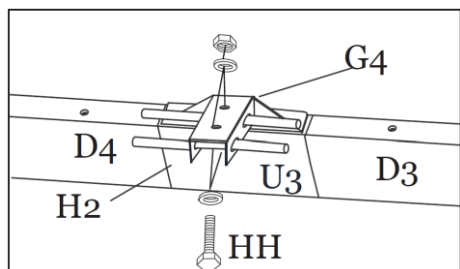

Figure 10-3
Step 10C: Insert the Mosquito Netting Connecting Tubes (U3) into the Top Lintel Bracket (G4) and attach by inserting Bolts/Washers/Nuts (HH). **Tighten all Bolts.** See Figure 10-3. **Note:** this is only for the 14-foot side.